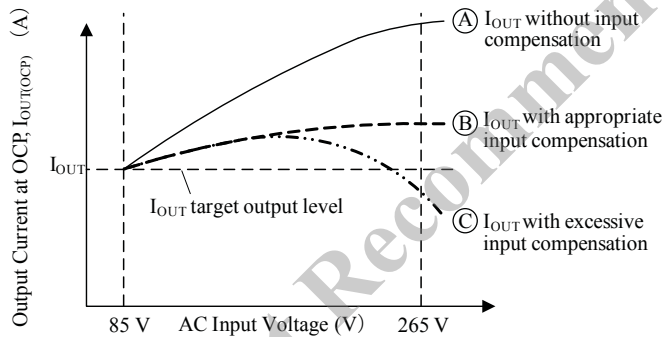

Figure 25. OCP circuit input compensation
Because  $R_{OCP}$  is fixed, the OCP point in the higher input voltage will shift further into the overload area, as shown by curve A in figure 25. In order to suppress this phenomenon, this IC has the Overcurrent Input Compensation function.
As for determining an input compensation value, it is necessary to avoid excessive input compensation for the output current specification,  $I_{OUT}$ , as shown in figure 25. When excessive input compensation is applied,  $I_{OUT(OCP)}$  may be below  $I_{OUT}$  in the situation where the input voltage is high. Therefore, it is necessary to ensure that  $I_{OUT(OCP)}$  remains more than  $I_{OUT}$  across the input voltage range.
Optimize the circuit in a way to minimize the difference between the overcurrent points at low and high AC input voltage. Also ensure that the output current meets its target over the entire AC input voltage range, as the curve B in figure 25 (appropriate input compensation). The OCP pin voltage, including surge voltage, must not exceed its absolute maximum rating of  $-2.0$  to  $5.0$  V at the highest AC input voltage.
2. The overcurrent detecting peak drain current with the input compensation circuit,  $I'_{DP(OCP)}$ , is expressed by the following equation, derived from equation 9.  $I'_{DP(OCP)}$  is set to the peak drain current where the output current is equal to that at the maximum AC input voltage of the curve B in figure 25 (appropriate input compensation):
- $I'_{DP(OCP)}$ , Drain current when the output current is equal to that at the maximum AC input voltage of the curve B in figure 25 (appropriate input compensation): 1.9 A
Finally, ensure that the output current limited by OCP operation is similar to that of the curve B in figure 25 (appropriate input compensation), in actual operation throughout AC input voltage ranges. If necessary, re-adjust the rating of  $DZ_{X1}$  and  $R_{X1}$  by changing the compensation startup voltage  $V_{IN(OCP\_ST)}$  for OCP pin input voltage.